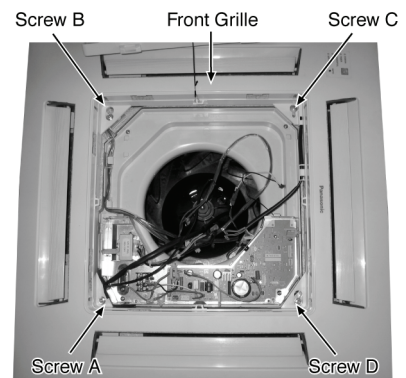

Fig. 5
5. Remove the Front Grille by removing the screw A and screws B, C & D half way open (Fig. 5).